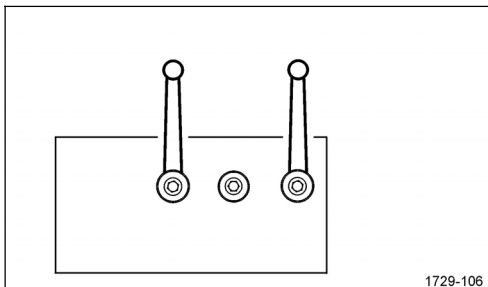

Figure 70
- ☐ Set the right ball valve according to Figure 70.